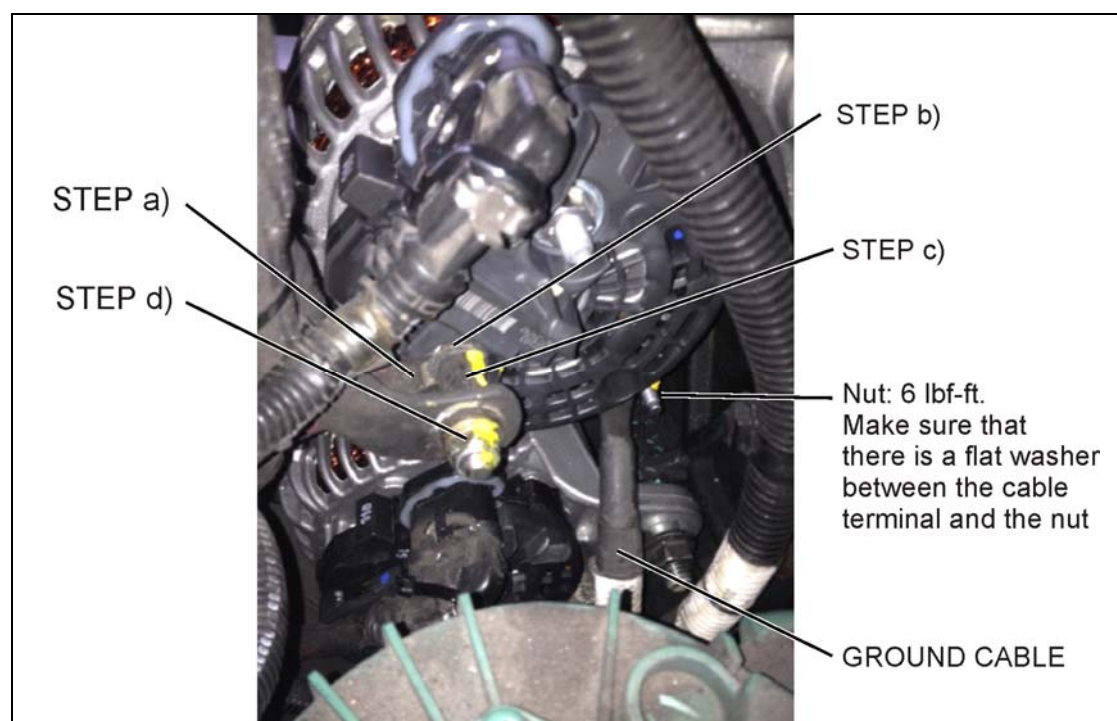

FIGURE 26
- Install jumper cable (a.k.a. positive cable) onto **B1+** stud terminal on upper alternator (**FIGURE 26**).
- Place one new flat washer #5001341 against the cable ring terminal (**FIGURE 26**).
- Screw and tighten the adapter stud #564590 (torque: 10 lbf-ft) (**FIGURE 26**) prior installing power cable.
- Fit the power cable terminal onto adaptor stud, place one new flat washer #5001341 against the power cable terminal and screw a new nut #5001787 (nut torque: 10 lbf-ft) (**FIGURE 26**).
15. Fit the ground cable onto the alternator ground stud, place one new flat washer #502573 against the ground cable terminal and screw a new nut #5001182 (nut torque: 6 lbf-ft) (FIGURE 26).